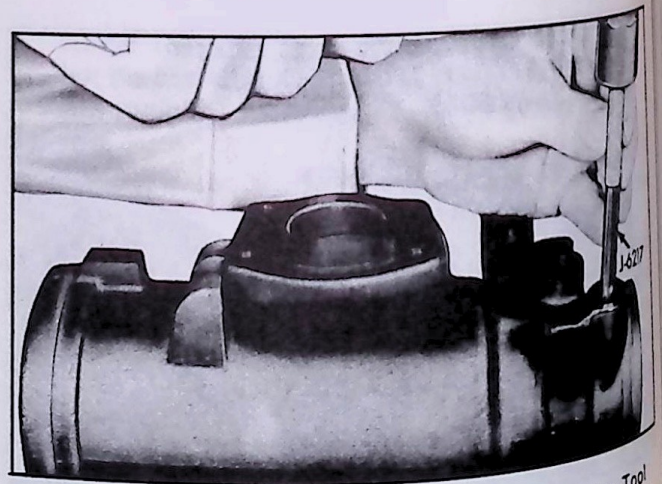

Fig 49—Installing New Connector in Housing Using Tool J-6217
5. Drive the new connector against the housing seat using Tool J-6217, being careful not to damage either the connector or housing seat (fig. 49).